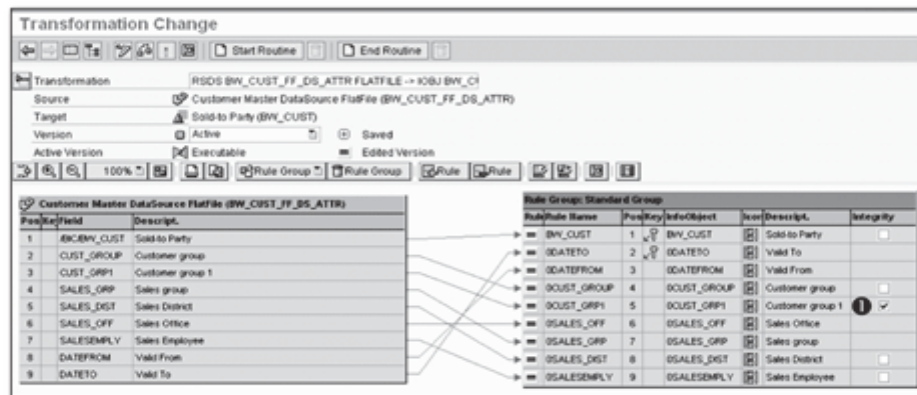

Figure 7.80 Setting an Integrity Check
As we said, we must configure an integrity check so that the system checks the value of OCUST_GRP1 for each respective value of the customer. You therefore check the Integrity checkbox shown in ❶ of Figure 7.80.